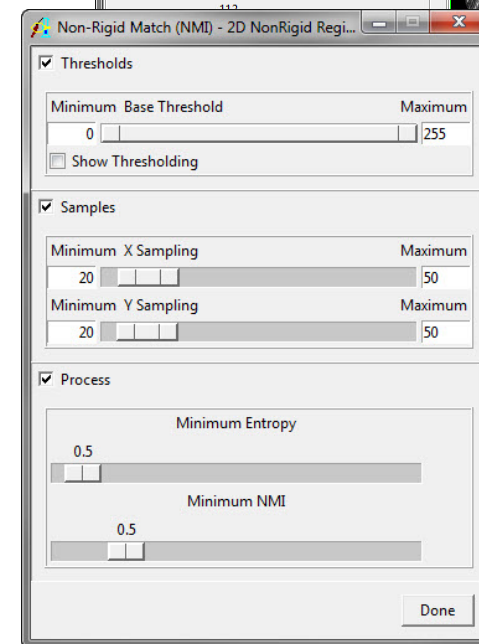

Figure 4
11. In the Non-Rigid Match window (figure 4), review the following options: